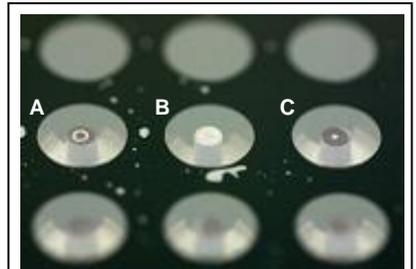

Figure 2. Stoppers that are:
4. Visually inspect the underside of the populated 96-well plate to ensure that the Oris™ Cell Seeding Stoppers are firmly sealed against the bottom of the plate. To inspect the stoppers, turn the plate over and examine the stoppers for sealing (see Figure 2). If incomplete sealing is observed, return the plate to the upright position and use a sterile instrument to gently push the stopper back into the well until sealing is observed.
NOTE: The sealing of the stoppers can be most easily observed if the plate is tipped at an angle and viewed under indirect light to reveal the “bullseye” pattern at the bottom of each well (Figure 2).